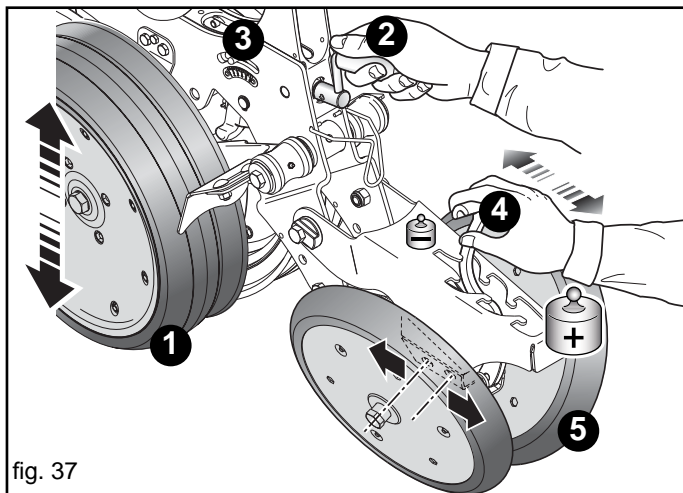
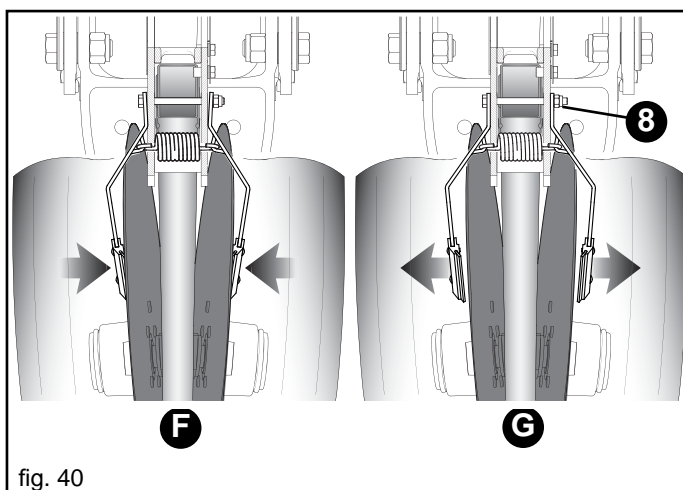

fig. 37
fig. 40
Adjust the seeding depth by changing the height of the side wheels (1, Fig. 37) using the crank (2, Fig. 37). A numbered scale (3, Fig. 37) enables all of the parts to be adjusted to the same degree.
- using the handle (4, Fig. 37), adjust the pressure of the rear inclined wheels for closing and packing the seed furrow (5, Fig. 37).
Planting units are supplied with soil scrapers in production configuration (F, Fig. 40) which adhere to the disc furrowers.
The action of the front clod clearer is crucial to correct and homogeneous sowing; it allows the track of the element's depth wheels (1, Fig. 37) to be cleared of the largest clods (H, Fig. 40) that could cause irregular planting depth.